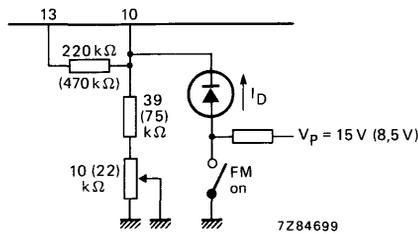

Fig. 4 The oscillator is switched-off when:
5. Switching 'OFF' the oscillator; see Fig. 4.